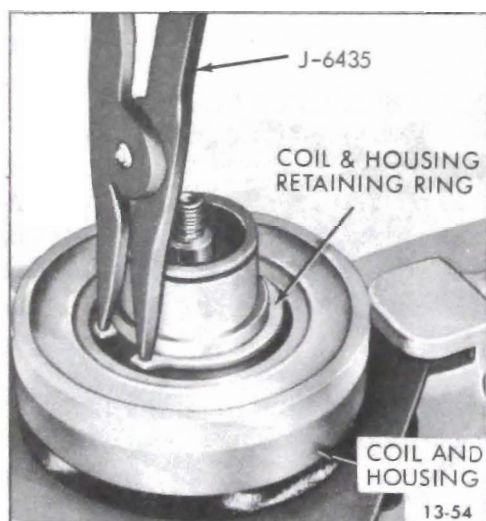

Figure 13-80 Removing or Installing Coil and Housing Retainer Ring
6. Mark position of coil and housing assembly in relationship to shell of compressor, remove coil and housing retainer ring (see Figure 13-80) using No. 26 truarc pliers (J-6435), and lift out coil and housing assembly.